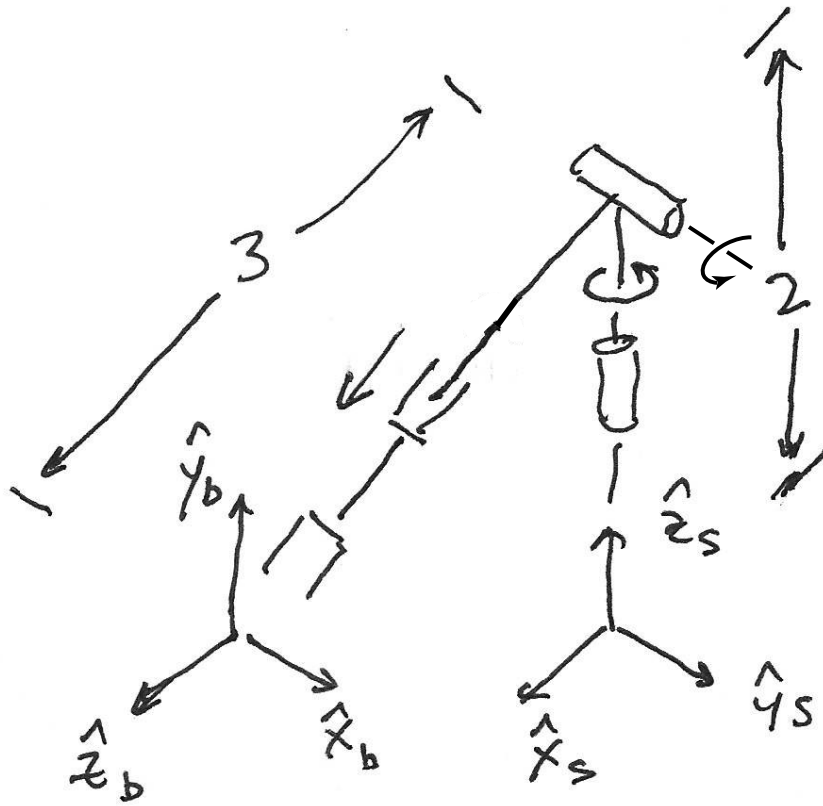

Figure 1: RRP robot in its home configuration. The arrows indicate the sense of positive motion about or along each joint axis.
2. You will test your software using the RRP robot shown in Figure 1 at its home position. M is $T_{sb}(0)$, the end-effector configuration when the arm is at its home position. First write M . Then